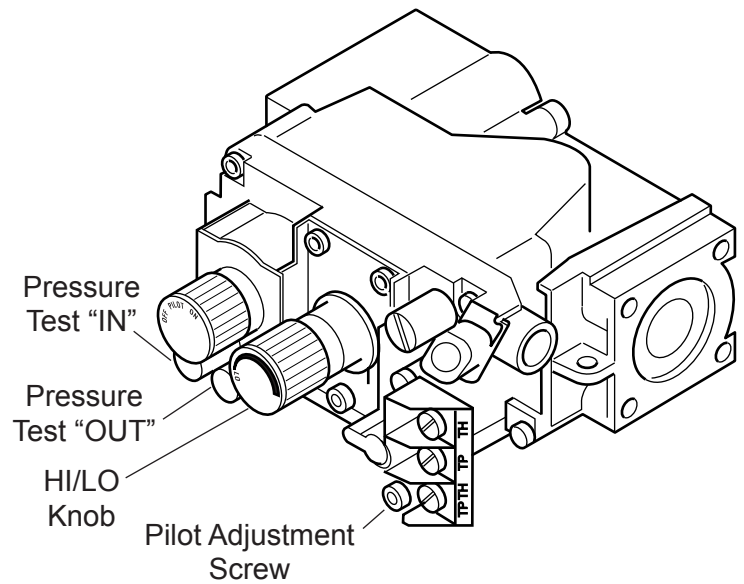

Figure 14 - Gas Pressure Check at Gas Valve
5. To check gas pressures at valve, turn captured screw counter clockwise 2 or 3 turns and then place tubing to pressure gauge over test point. Turn unit to high. *See Figure 14.* After taking pressure reading, be sure and turn captured screw clockwise firmly to reseal. Do not over torque. Check test points for gas leaks with a soap and water solution.